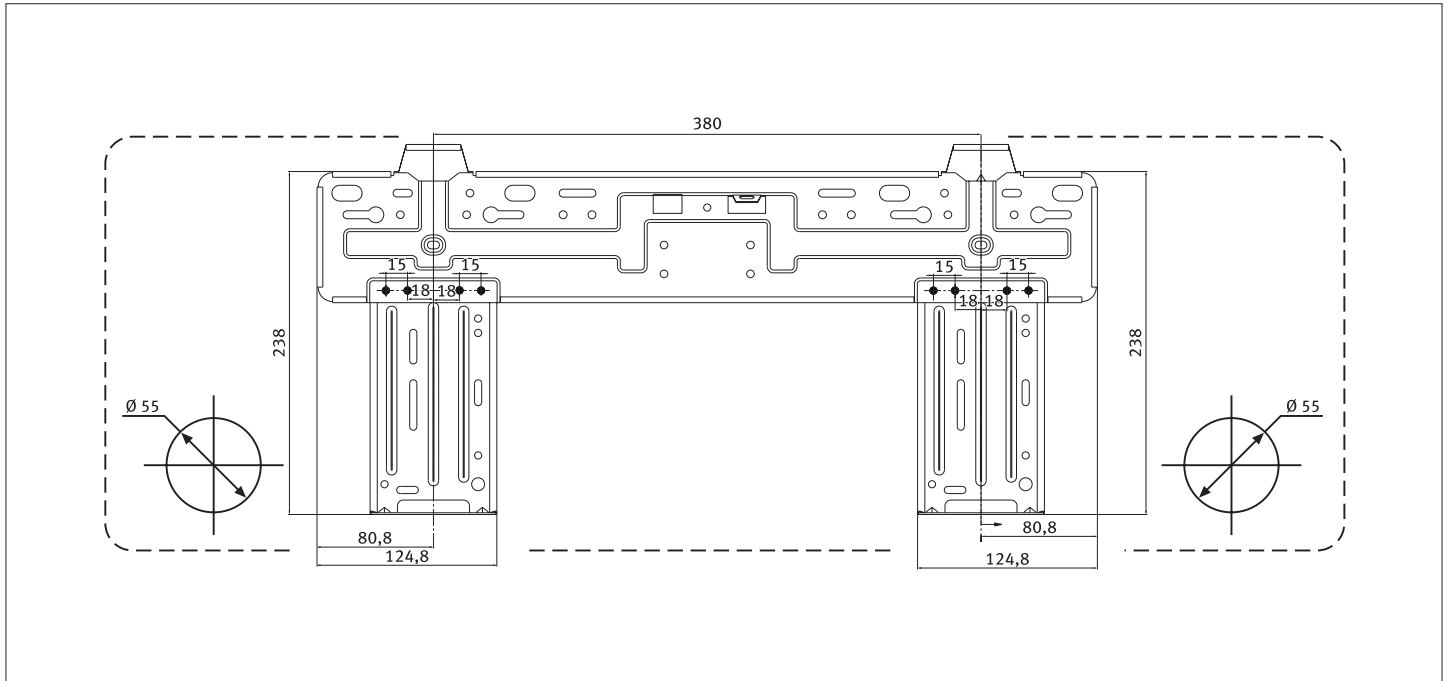

Fig. 9.6 Mounting plate for 18-025 NMWI and 18-035 NMWI.
In this case, a suitable hole must be made in the wall behind the unit (see Figures 9.6 and 9.7).
- Drill a hole in accordance with the diameter and position as indicated in Figures 9.6 and 9.7, ensure the hole is slightly descending to the outside to allow for a fall in the drain line.
In this case holes do not have to be made in the wall since the indoor unit body has knock outs which can be opened to allow the pipes to exit the unit: choose the most convenient one for the desired outlet position (see Figures 9.6 and 9.7).